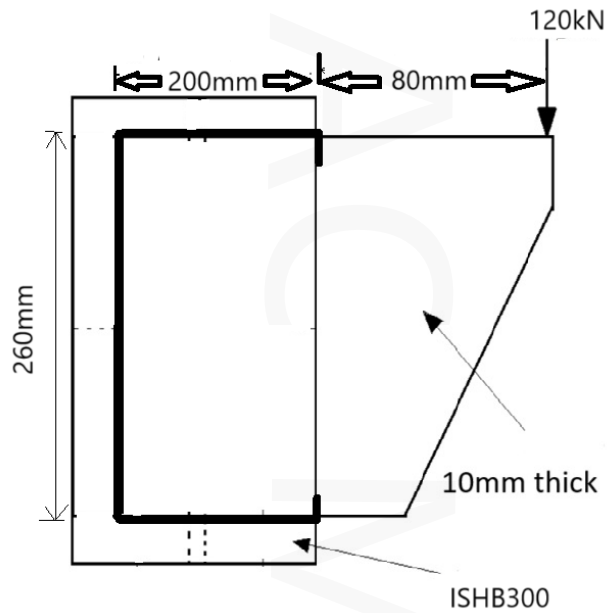

Figure 1
- 20 A bracket plate is welded to the flange of a column section ISHB 300 @ 618N/m (14) as shown in figure 1. Design the weld to support factored load of 120kN . Assume shop welding